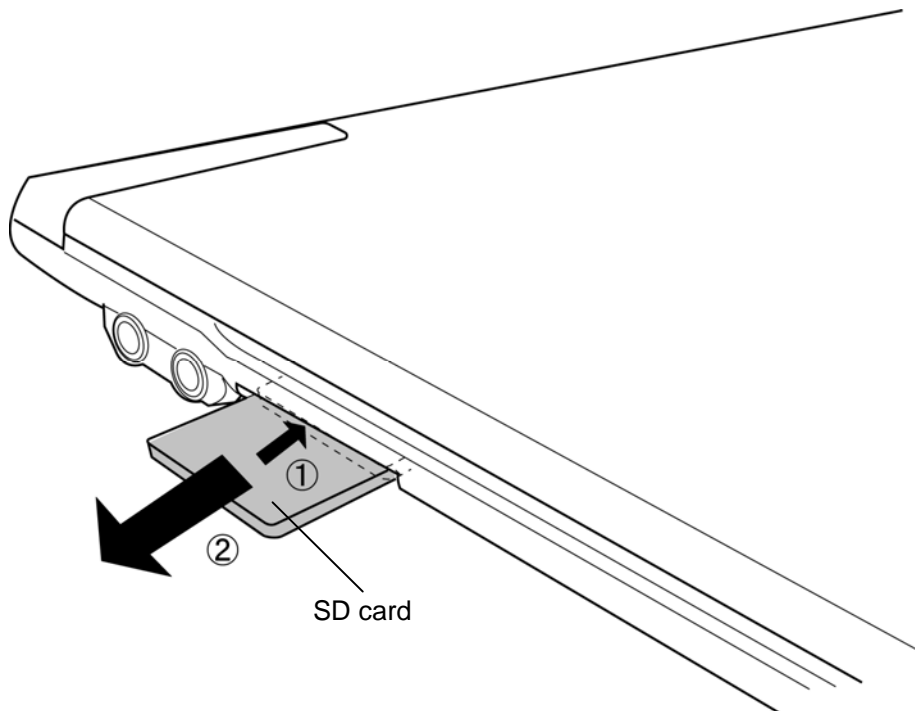

Figure 4-1 Removing the Bridge media
To remove the Bridge media, follow the steps below and refer to Figure 4-1.
1. Push the **Bridge media (dummy card)**. It will pop out partly, so pull out the card. (For an instance, SD card is described in the figure 4-1.)
To install the Bridge media, follow the steps below and refer to Figure 4-1.